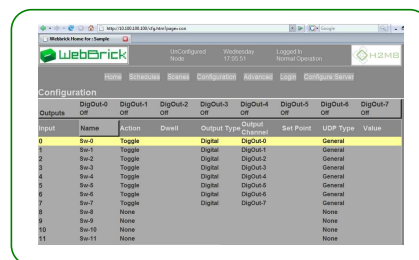

Figure 3: Configuration Page
3. Pressing the login button will automatically redirect you to the configurations page. On this page click on the line, which corresponds to the first of the digital inputs you connected the rotary encoder to. In this example we used digital input 0 (see figure 3).